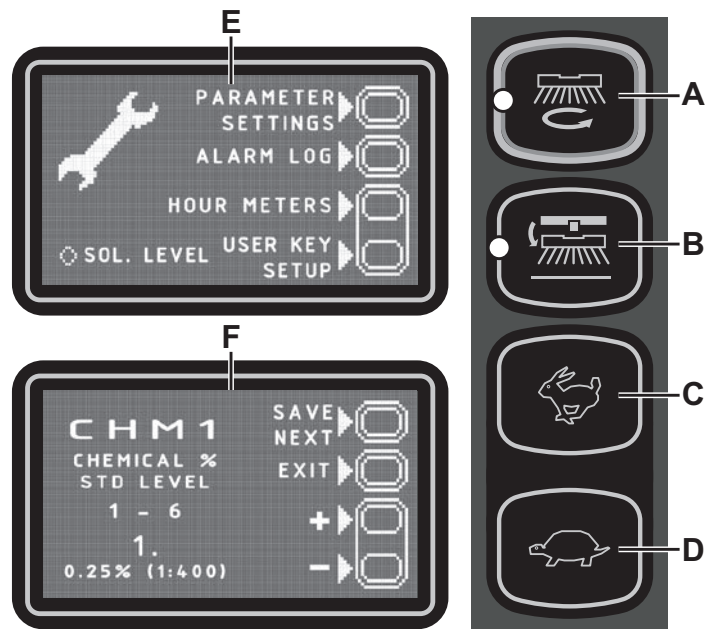

Figure 8
Main Screen (E, Fig. 8)
Machine Settings Screen (F, Fig. 8)
To return to the main screen (E, Fig. 8), press push-button (A) repeatedly.
To return to the main screen (E, Fig. 8), press push-button (A).